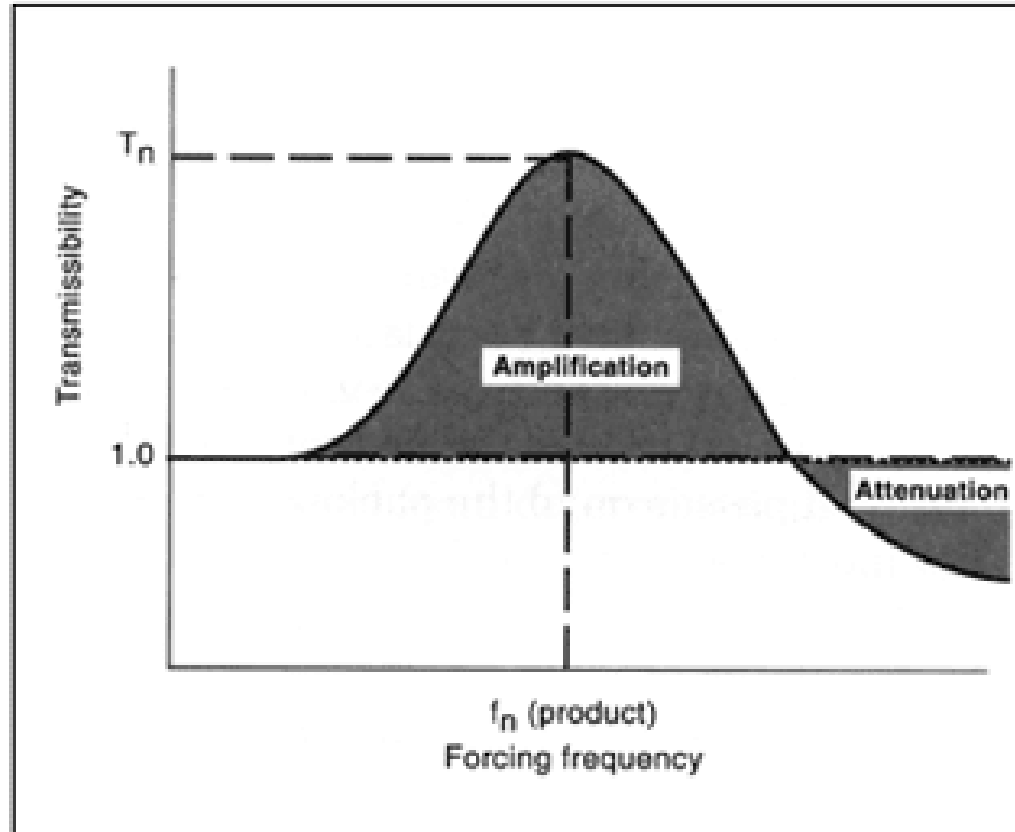

Figure 15.3 Typical vibrational response of a package
- Every cushioning system has a range of vibrational frequencies in which it amplifies vibration and passes on a more severe vibration to the packaged product than it receives from the transport environment (Figure 15.3).